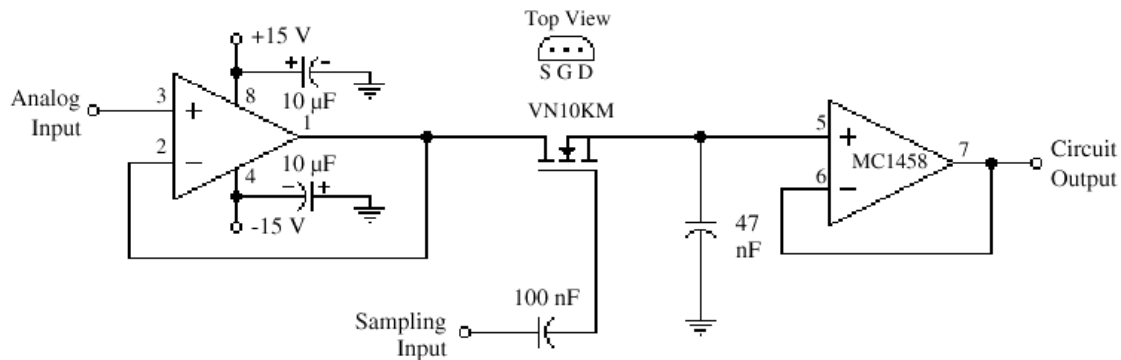

Figure 1. Sample and Hold Circuit
The purpose of the circuit of Figure 1 is to allow an incoming analog signal to be sampled so that the discrete voltage sample levels may be converted to digital signals. To do this, the circuit must follow or track the analog signal and periodically hold the sample level long enough for the level to be converted to a digital value by a digital-to-analog (D/A) converter. In the circuit of Figure 1 the MOSFET acts as a simple switch, allowing the signal from the first op amp to appear across the 47nF hold capacitor whenever the MOSFET is on. The sampling frequency is usually a square wave applied to the gate, turning the MOSFET on whenever the gate voltage is positive. When the MOSFET is off, the 47nF capacitor holds its voltage level since it cannot discharge through the high impedance of the MOSFET or the high input impedance of the second op amp. The voltage level may now be converted to a digital word reflecting the voltage value. When the MOSFET switches on again, the 47nF capacitor quickly tracks back to the voltage of the analog signal. The analog signal may be most accurately reconstructed if many samples are taken within one analog cycle, consequently the sampling frequency is best when much higher than the analog frequency. At worst, the sampling frequency must be at least twice the analog frequency or aliasing distortion will occur, creating unwanted lower frequencies. Complete A/D conversion systems will usually include anti-aliasing filters to remove analog frequencies higher than half of the sampling frequency in order to prevent aliasing.
- Step 1.** Connect the circuit of Figure 1 using 10 μ F noise-filtering capacitors across the 12 V power supplies for the op amps. Observe capacitor polarities to prevent an explosion hazard.